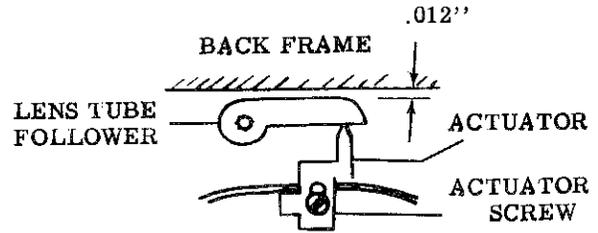

Figure 20. Actuator Infinity Adjustment
b. Push the right hand button of the focusing arm (14, figure 6), as close to the camera body as possible infinity focus. Insert a narrow shank screwdriver through the hole at the bottom of the camera body to loosen the actuator screw (4). Position the actuator (1 or 1A) with the arm approximately parallel with the lens tube (23). Slide the actuator so the actuator arm positions the lens tube follower approximately 0.012 inches from the camera back frame as illustrated in figure 20. Tighten the actuator screw (figure 20).